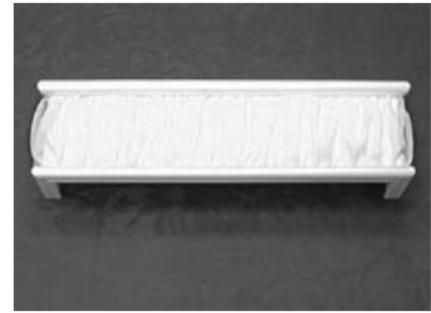

Figure C9
11. Repeat steps 7 through 10 for the left end of the valance. (See Figure C9)